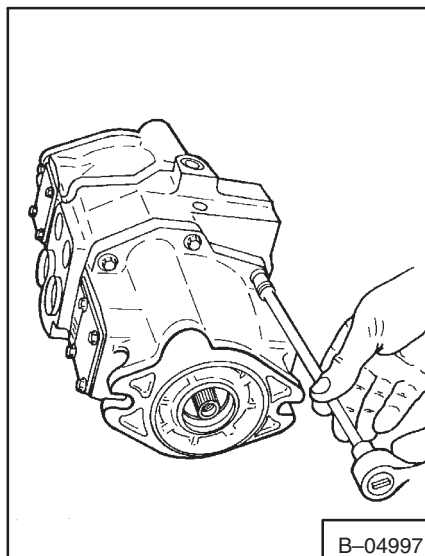

Fig. 3-99 Removing Pump Section Bolts
7. Remove the six bolts that hold the hydrostatic pump to the manifold block (Fig. 3-99).